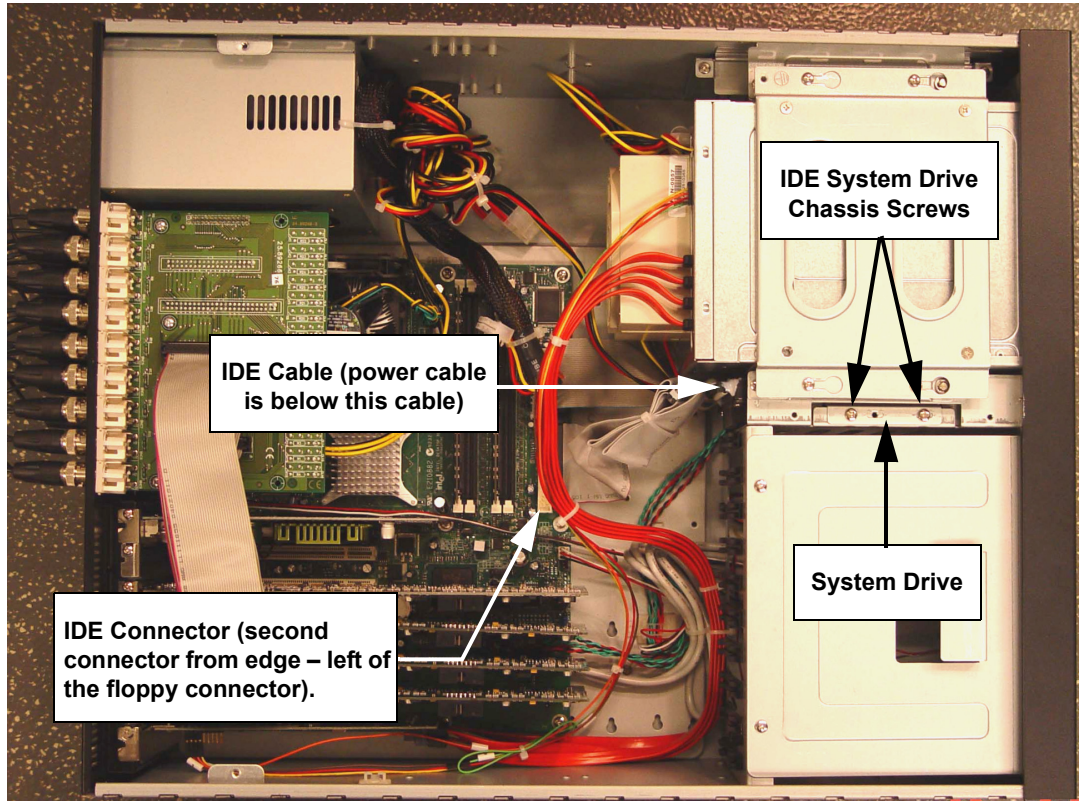

Figure 4: IDE System Drive Components
7. Disconnect the IDE and power cables from the IDE system drive (see Figure 4).